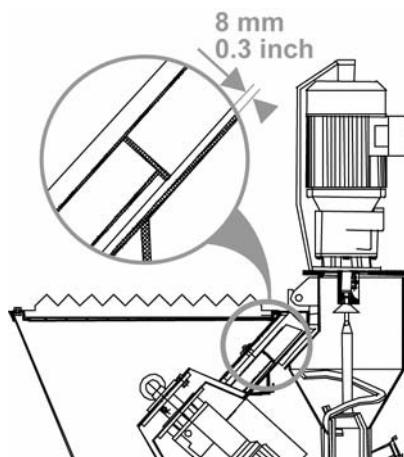

Fig. 72: Cellular wheel
- Distance from cellular wheel to hopper floor (Fig. 72): Factory set at approximately 8 mm (0.3 inch).